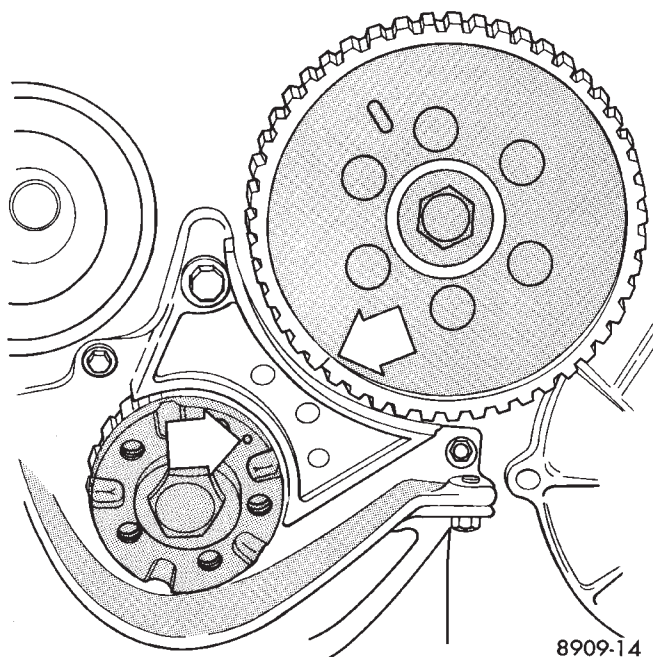

Fig. 11 Crankshaft and Intermediate Shaft Timing
(1) Remove all spark plugs. Turn crankshaft and intermediate shaft until markings on sprockets are in line, see arrows (Fig. 11).